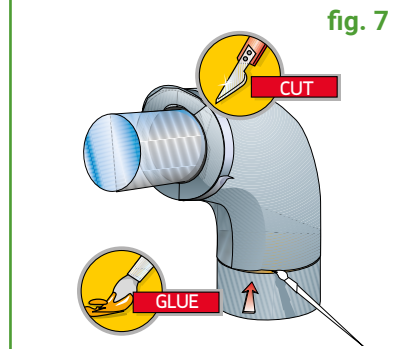

fig. 7
- 7) Using a metal tape as a guide, cut the two edges at a right angle, so that they match the adjacent insulating sections. (fig 7)